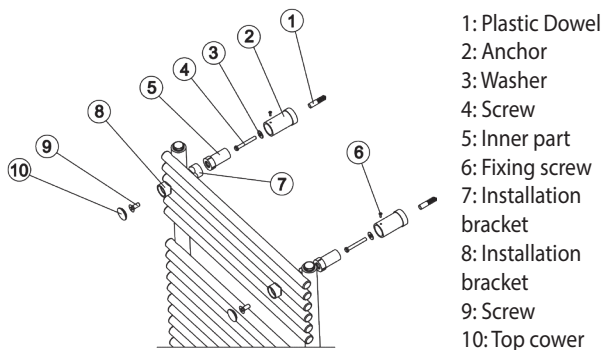
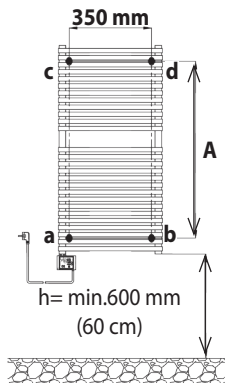

Figure 5: Assembly Parts
Figure 6: Mounting Dimensions
2. Correct space has to be measured in order that the connection cord can easily be connected to the electric socket. After determination of the installation area, the holes must be marked according to the method shown in Figure 6.
3. After marking the points according to Figure 6, the holes will be drilled by a $\varnothing 10$ mm drill and the plastic dowels (see figure 5 - part "1") that are in the installation items are inserted into these holes.
4. Attach the anchors (4 pieces) (see figure 5 - part "2") onto plastic dowels with the washer (see figure 5 - part "3") and the screw (see figure 5 - part "4").
5. Then you will fix your towel warmer on the wall with assembly parts 5, 6, 7, 8, 9, 10 as its shown in figure 6.